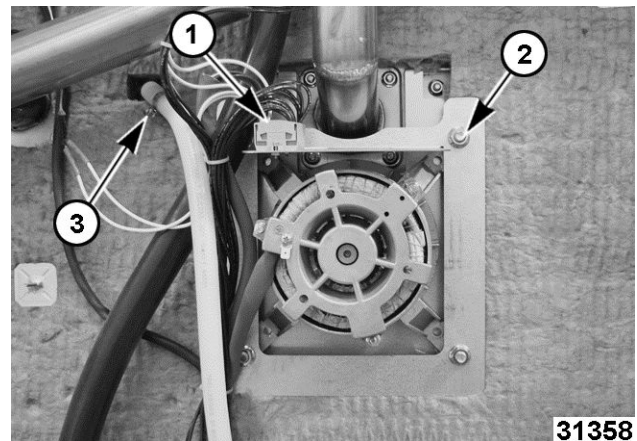

Fig. 121
2. Note and disconnect motor wires (1, Fig. 121) at TB2.